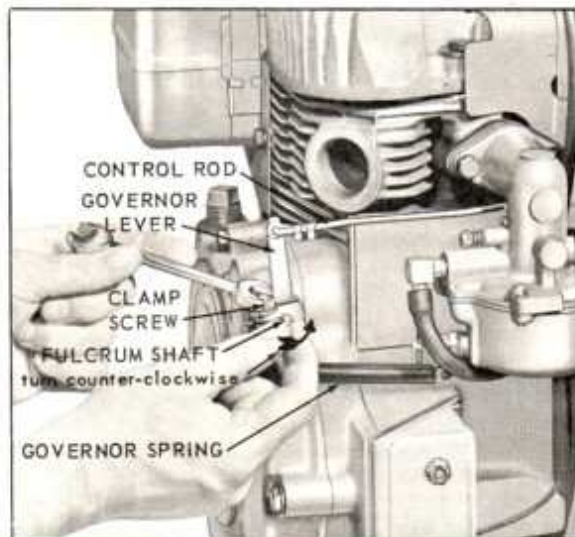

Fig. 44
5. Tighten **clamp screw** as illustrated in Fig. 44, and mount **idle return spring** from breather tube to governor lever as shown in Fig. 45.